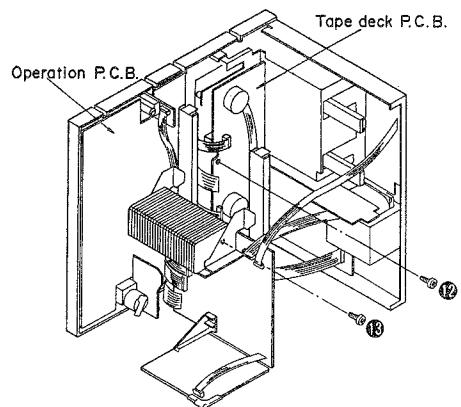

Fig. 3
5. When checking the soldered surface of the P.C.B., do as shown in the fig. 3.